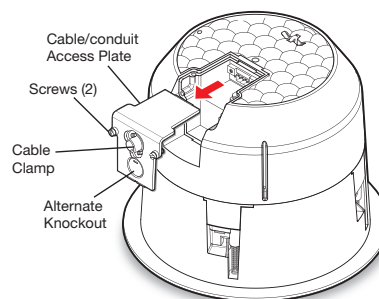

Figure 5. Removing the cable/conduit access plate
6. **Configure the cable/conduit access plate and captive screw connector** (see figure 5):